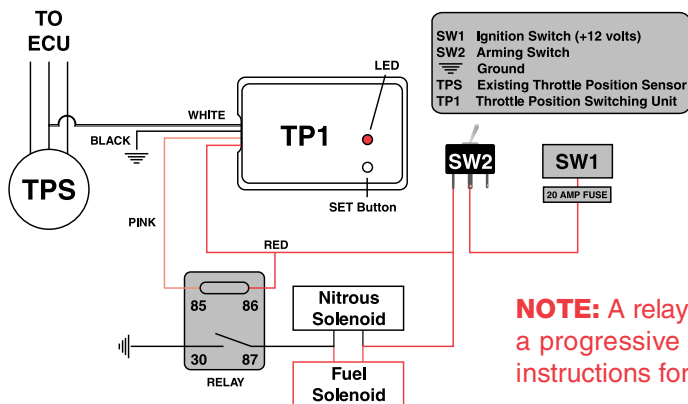

Fig. 11
2. For direct feed from battery: Wire the remaining wires as shown (Fig.11), but leave the pink (pink wire will activate the solenoids) and red wires disconnected.
3. For connection to 12V ignition: Wire the remaining wires as shown (Fig.11), but leave the pink (pink wire will activate the solenoids) disconnected. **a)** Press and hold down the set button with the ignition turned off. **b)** Turn on the ignition switch to IGN only (**not Start**) and release the set button. The LED should illuminate for 2 seconds after you release the set button. **c)** Open the throttle using the pedal to the position that you want the Nitrous System to activate (between 80 and 90% of full throttle) and then briefly press the set button again. The LED should illuminate for 2 seconds again and then switch off, which indicates that the unit is ready for use. Opening the throttle to WOT should now cause the LED to illuminate. **d)** Now connect the **pink** wire as shown (Fig. 11) after the unit has been set.